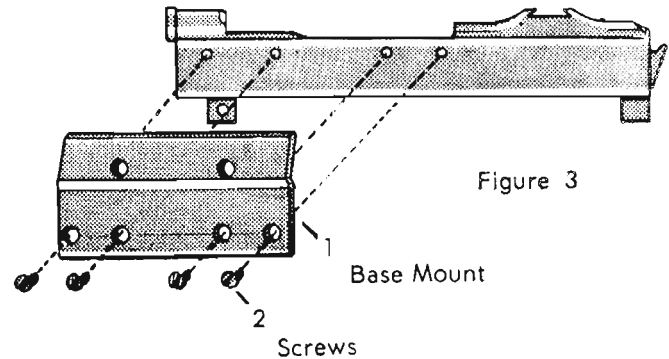

Figure 3
Fasten base (1) to receiver with four screws (2) extremely tight, as in Fig. 3. Gunsmiths often apply one of the many two-part Epoxy metal bonding cements (available at variety stores) to the screws and under the base for greater security. Tighten each of the four base cap screws a little at a time until all are very tight so there can be no slippage. The rifle is then ready for sighting in.